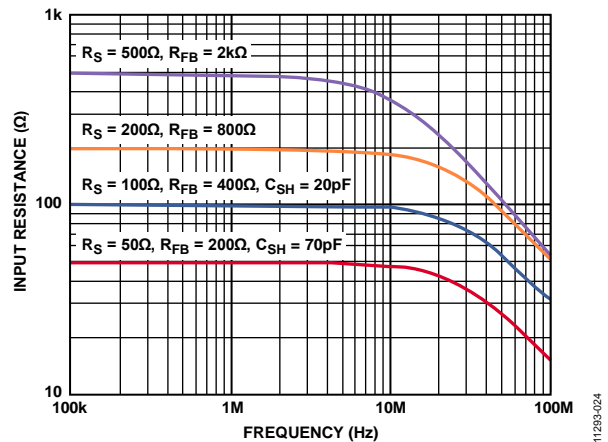

Figure 34. Input Resistance (R_{IN}) vs. Frequency for Various R_{FB} Values (Effects of R_s and C_{SH} Are Also Shown)
The bandwidth (BW) of the LNA is greater than 80 MHz. Ultimately, the BW of the LNA limits the accuracy of the synthesized R_{IN}. R_{IN} = R_s up to approximately 200 Ω. The best match is between 100 kHz and 10 MHz where the lower frequency limit is determined by the size of the ac coupling capacitors and the upper limit is determined by the LNA BW. Furthermore, the input capacitance and R_s limit the BW at higher frequencies. Figure 34 shows input resistance (R_{IN}) vs. frequency for various R_{FB} values.
For larger R_{IN} values, parasitic capacitance starts rolling off the signal BW before the LNA can produce peaking. C_{SH} further degrades the match; therefore, do not use C_{SH} for values of R_{IN} that are greater than 100 Ω (see Figure 34).